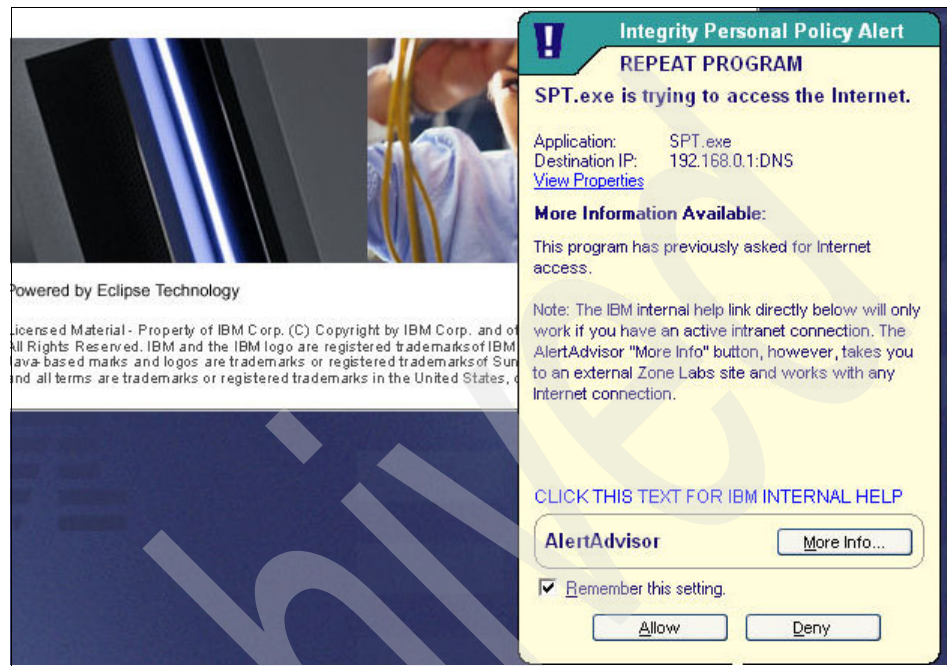

Figure A-6 Firewall warning message for SPT.exe
- At this point you may see a second firewall warning message asking about SPT.exe. Check the **Remember this setting** box and then click **Allow** (Figure A-6).